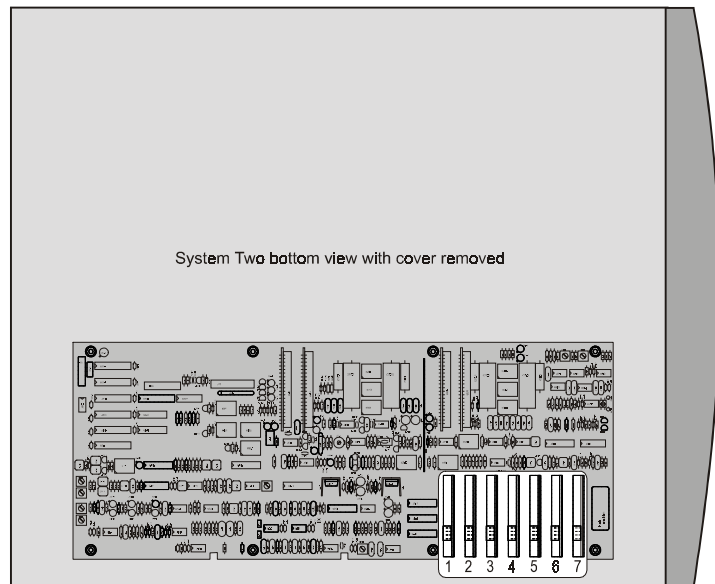

Figure 1. System Two bottom view showing filter locations
3. Refer to Figure 1 to locate the filter positions.